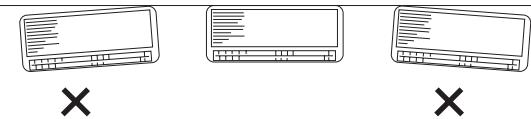

Fig. 1-37
- 2) Double-check with a ruler or level gauge that the panel is level. This is important to install the unit properly. (Fig. 1-37)